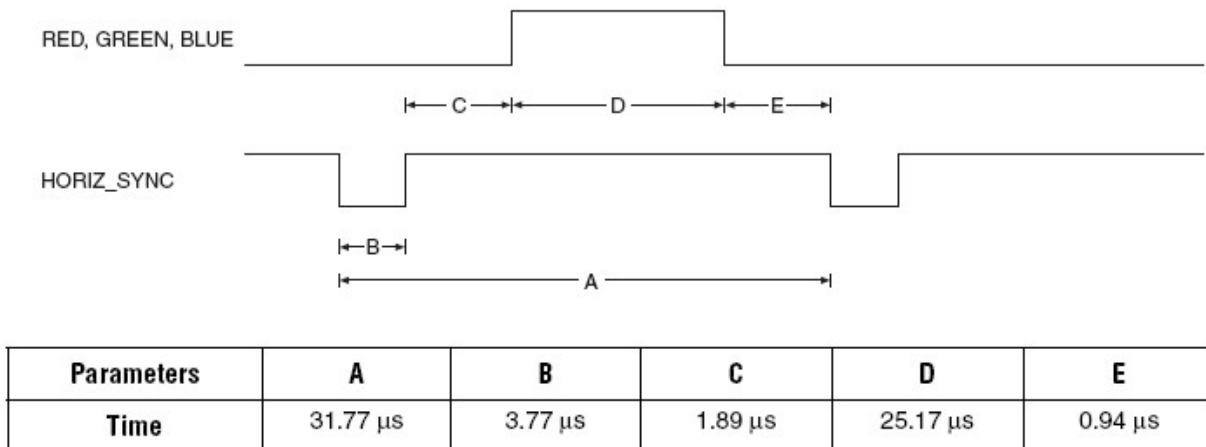
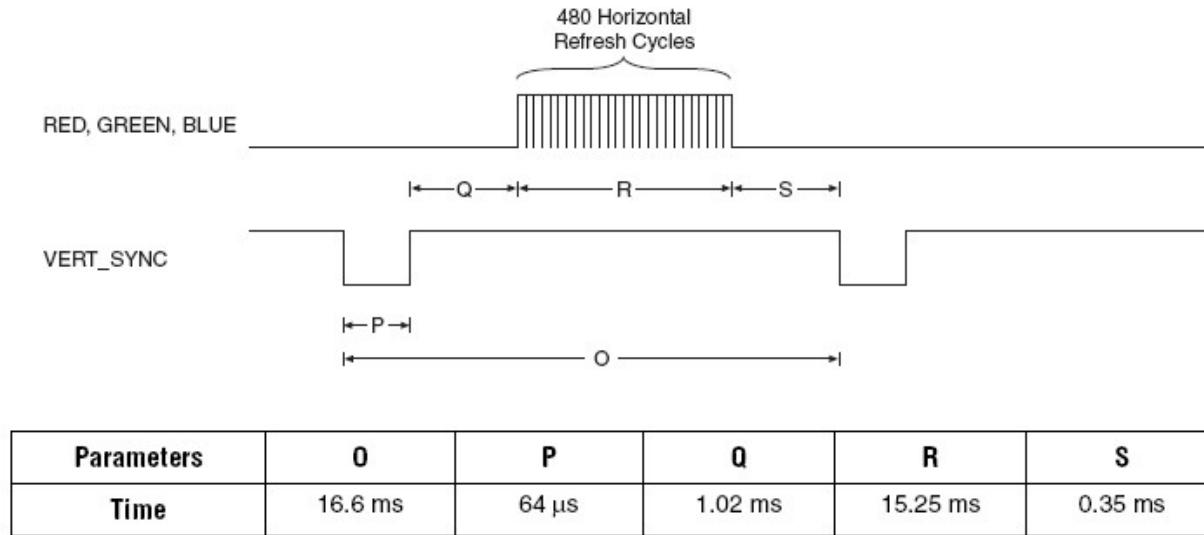

Figure 1. Horizontal Refresh Cycle.
Figure 2. Vertical Refresh Cycle.
The VGA monitor connector on the ALTERA DE0 board consists of five signals, RED(4 bits), GREEN(4 bits), BLUE(4 bits), `HORIZ_SYNC`, and `VERT_SYNC`. Look into the ALTERA DE0 Board User Manual for the header pin outs for the ALTERA DE0 board for these 5 signals. The timing relationships among this signal are shown in **Figures 1 and 2** at the end of this lab document. The generation of signals needed for the raster on the VGA monitor begins with dividing the frequency of the 50 MHz clock on the ALTERA DE0 board down to a 25 MHz pixel clock which is further divided down to the horizontal and vertical sync frequencies. This means your design will contain a **horizontal counter** and a **vertical counter**. The horizontal and vertical sync pulses of appropriate lengths are then produced from the two counters.
Horizontal and vertical synchronization. A video display consists of 640 pixels in the horizontal direction and 480 lines of pixels in the vertical direction. The monitor starts each refresh cycle by updating the pixel in the top left-hand corner of the screen, which can be treated as the origin (0,0) of an X-Y plane. After the first pixel is refreshed, the monitor refreshes the remaining pixels in the row. When the monitor receives a pulse on the **HORIZ_SYNC** pin, it refreshes the next row of pixels. The time required for the sweep, the horizontal sweep period, is nominally 31.77 μ s. This process is repeated until the monitor reaches the bottom of the screen. When the monitor reaches the bottom of the screen, a 64 μ s pulse applied to the **VERT_SYNC** pin, causing the monitor to begin refreshing pixels at the top of the screen (i.e., at [0,0]). As shown in Figure 2, the `VERT_SYNC` pulse must be repeated every 16.6 ms (vertical sweep period). A complete screen of information is being traced by the electron beam every 16.6 ms for a frame rate of 60 Hz.
Blanking intervals. In order to accommodate the time required to move the electron beam back to the left side of the screen (horizontal retrace period) the electron beam must be turned off during the retrace time or the return trace would be visible. This is accomplished by two blanking intervals during the horizontal refresh cycle marked by B and C at the beginning of the trace and E at the end of the trace in Figure 1. Similar blanking intervals are required during vertical refresh (P, Q, and S in Figure 2). The color beams are turned on only when the horizontal counter is in the period D and the vertical counter is in period R.
- A value of zero on Hcount corresponds to the beginning of section D in Figure 1.
- A value of zero on Vcount corresponds to the beginning of section R in Figure 2.